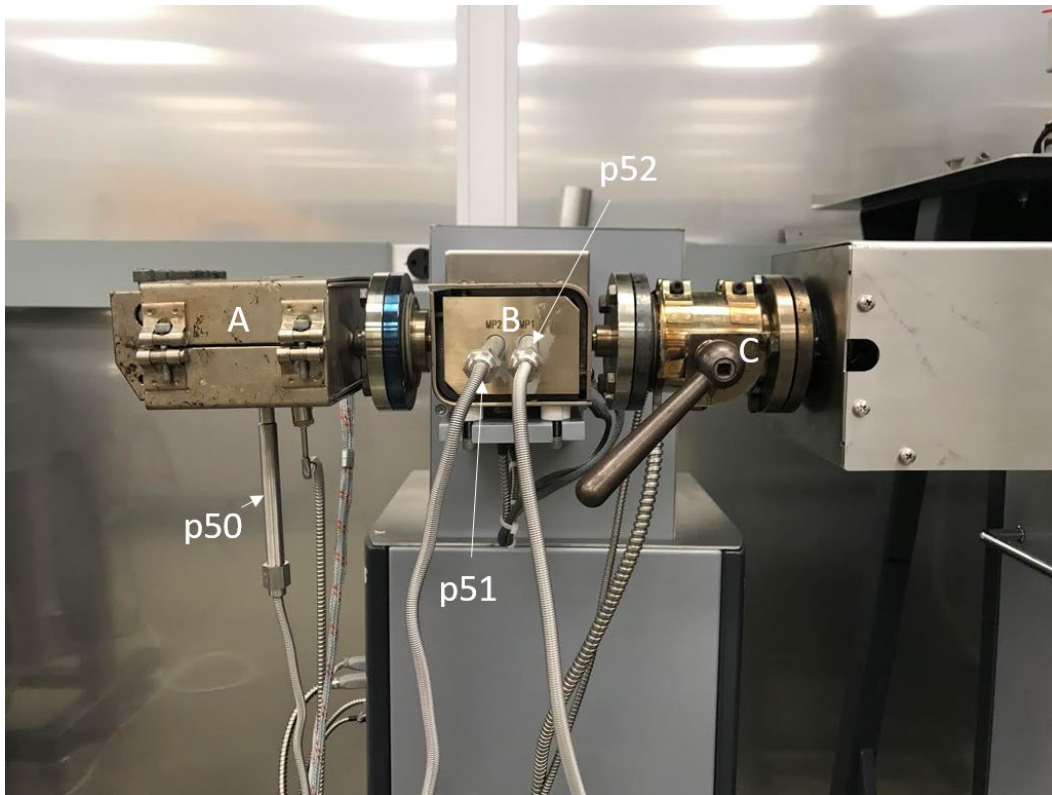

Fig. 4 A) die, B) melt pump, and C) bypass valve; pressure sensors p50, p51, and p52
- c. During the heat-up phase, the user must monitor the pressures in p50, p51, and p52. The pressure sensors are shown in Fig. 4. Sensor p50 is in the die, p51 is the pressure between the die and the exit of the melt pump, and p52 is the pressure between the inlet of the melt pump and the bypass valve. The steel connections between these pressure sensors take longer to get to temperature than the die and melt pump themselves because they are not heated directly. Heated tape or extruder barrel heaters are used to ensure a uniform temperature profile throughout the entire process. **WARNING: The entire line must be at temperature prior to starting the extruder or overpressures will occur.**